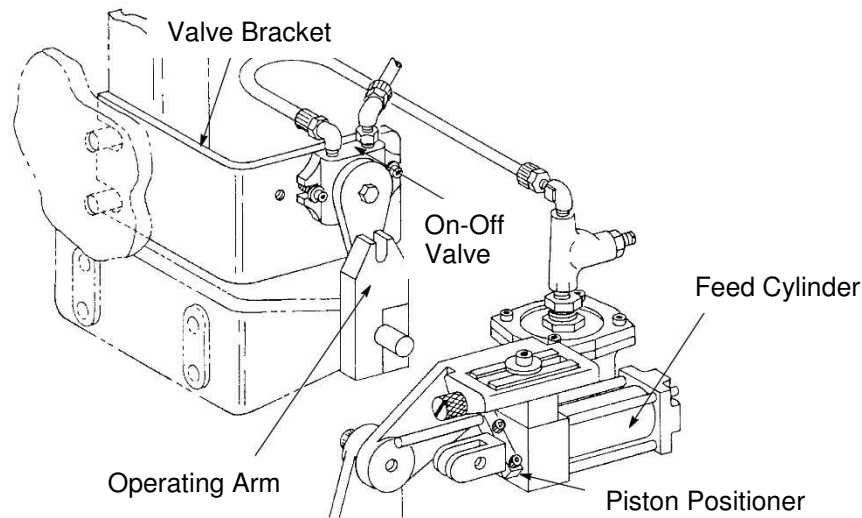

Figure 4
- (1) Loosen screw on top of pivot block.
- (2) Turn stroke forward limit adjustment screw **COUNTERCLOCKWISE** to move forward limit toward anvil, or **CLOCKWISE** to move forward limit away from anvil.
- (3) Tighten screw on top of pivot block.
- b. Applicator with air feed systems (see Figure 4)
- (1) Loosen 3/4-in. hex nut slightly to allow pivot shaft to move in slot.
- (2) Loosen locknut on stroke length adjustment screw, and turn screw **CLOCKWISE** to **SHORTEN** stroke or **COUNTERCLOCKWISE** to **LENGTHEN** stroke. Tighten locknut.
- (3) Confirm that pivot shaft bushing is **UP AGAINST** stroke length adjustment screw, then tighten 3/4-in. hex nut. Repeat Step 5 to check for proper stroke length.
- b. Applicator with air feed systems (reference Figure 4)
- (1) With machine at rest and feed finger extended, loosen two screws holding positioner to feed cylinder shaft and move positioner in required direction on shaft.
- (2) Re-tighten screws.
- (3) Repeat Step 5 to check stroke length.